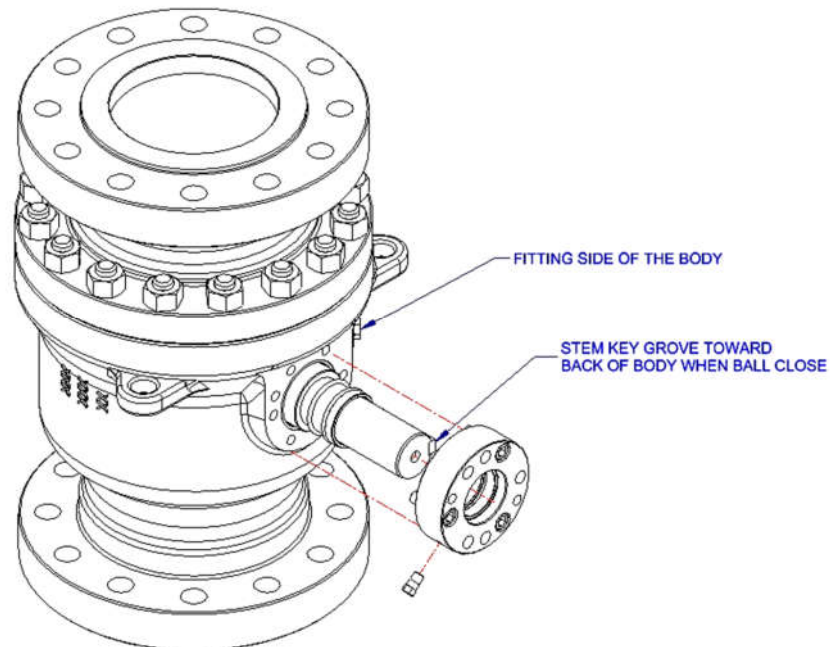

Figure 6 – Stem Orientation for Installation
17. Make sure the O-rings are installed in the bonnet and body top groove. The bonnet should be oriented so that both torque pins hole aligns with the torque pin holes in the body. The torque pins are offset so there is only one position for the bonnet. See Fig.6 & 7